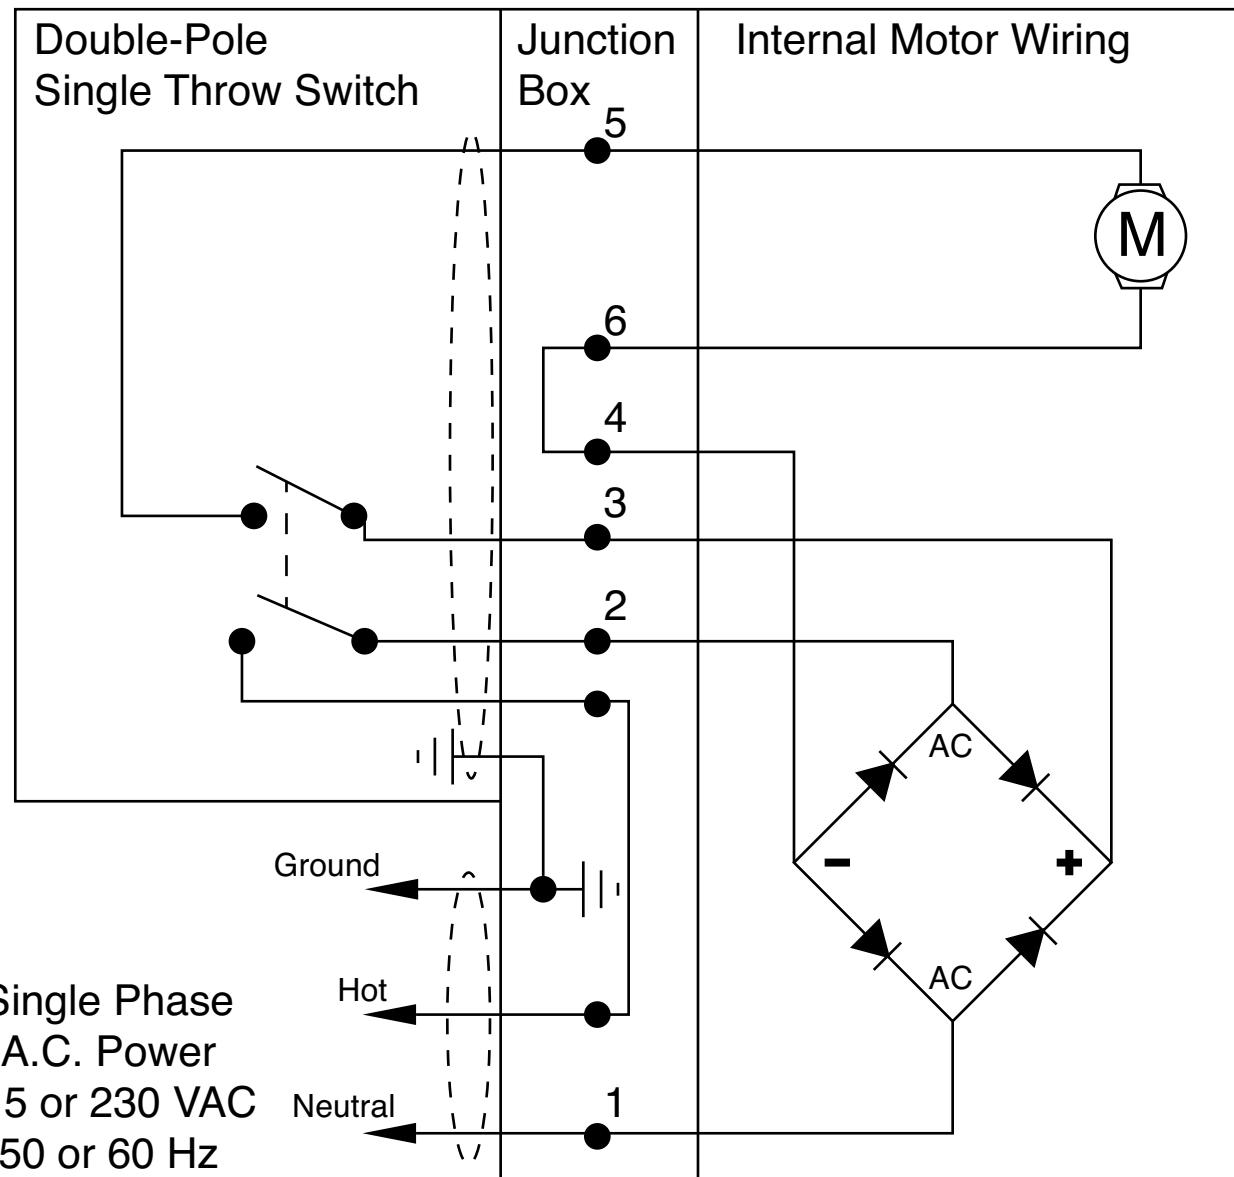

FIG. 11
Follow **Wiring Diagram** (FIG. 10) and **Wiring Schematic** (FIG. 11).
- c. Apply a light coating of grease to the o-ring (18).
- d. Install outlet (17) on reel.
- e. Reinstall bolts (19). Tighten all four bolts securely. Torque bolts to 24 to 30 ft. pounds (32.54 to 40.67 N.m)
- Electric Motors - AC Models Swap leads 5 and 6 (FIG. 11, page 23).